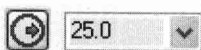

Fig.1-10 Unlocked
- ① Unlocked (shown in Fig.1-10): The data to change to the position of the cursor in the graphics window.
- ① 不锁定 (如图 1-10 所示): 数据随光标在图形窗口的位置改变。